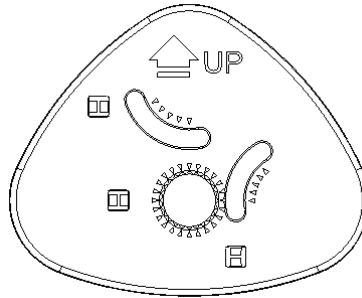

Figure 4.3.1 Always upward paper roll guide
- 1) Keep the paper roll guide always upward (see Figure 4.3.1);